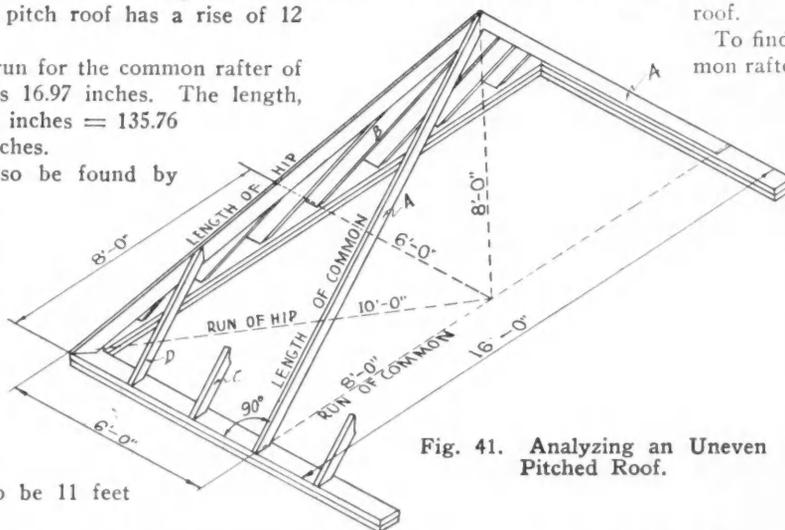

Fig. 41. Analyzing an Uneven Pitched Roof.
**PROBLEM:** To find the lengths and cuts for a hip roof with two different pitches. The width of the roof in Fig. 41 is 16 feet, the total rise is 8 feet and the end rafter is 6 feet.
By inspection we will notice a number of right triangles, shown in Fig. 41. One right triangle is formed by the run of one common rafter, the plate and the run of hip.